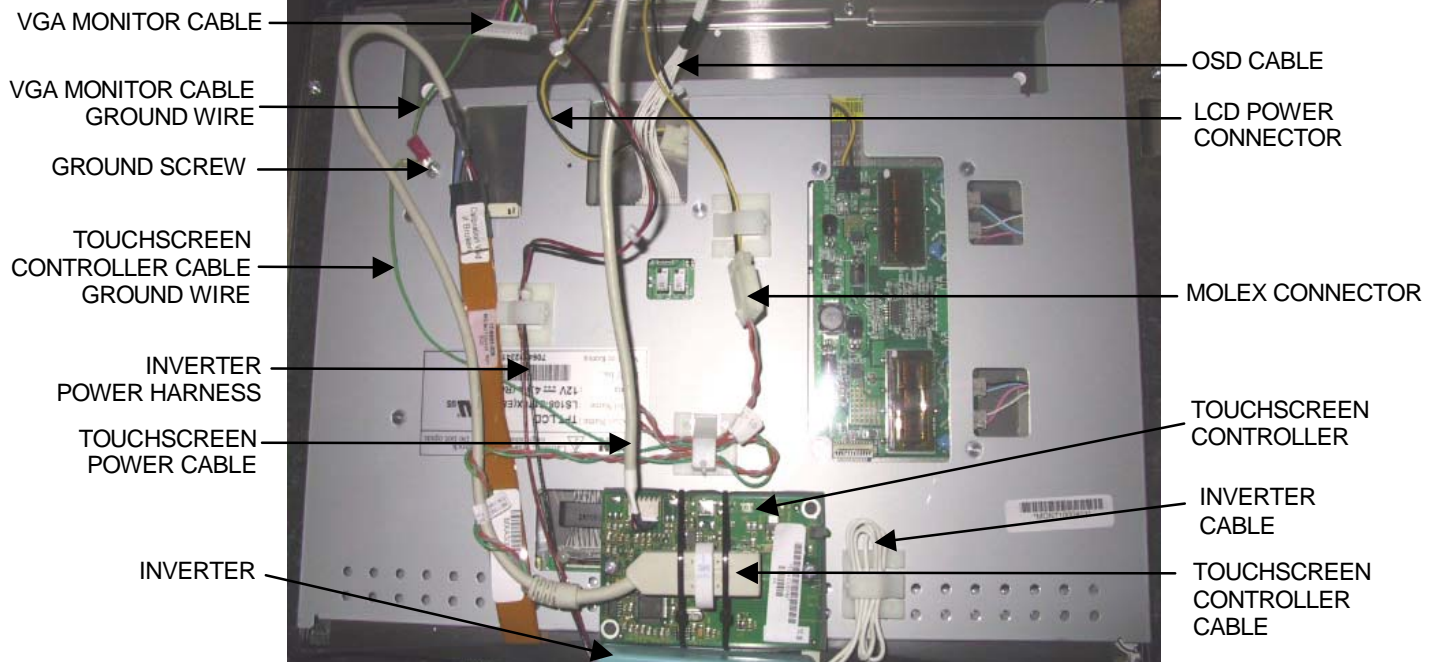
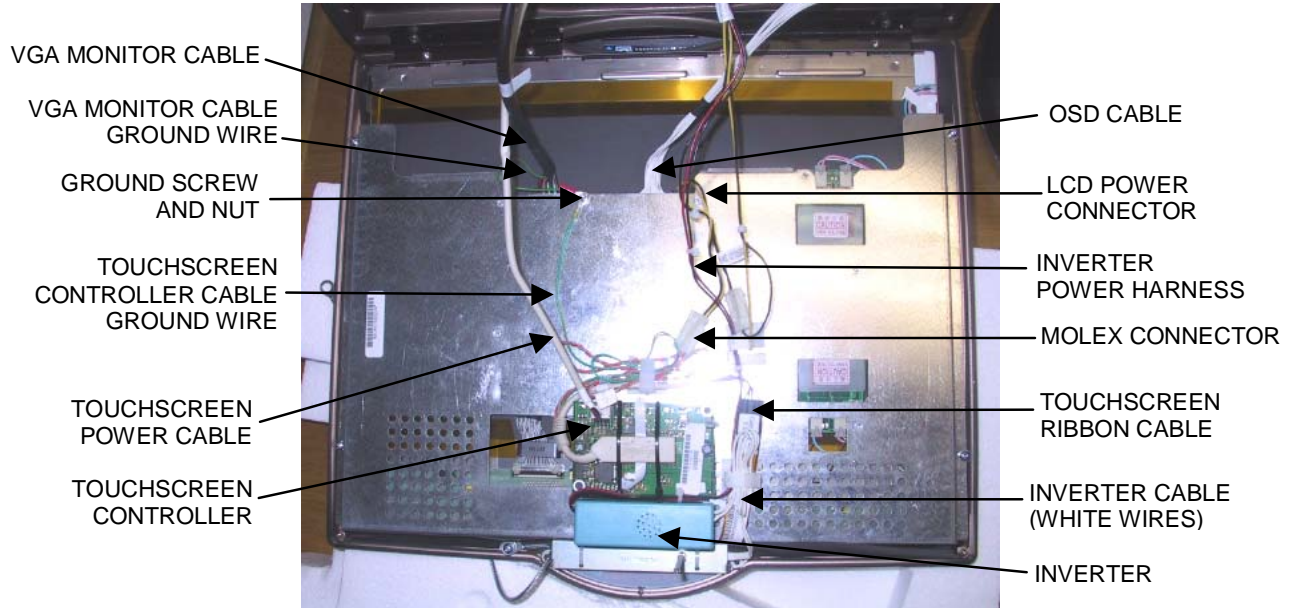

FIGURE 5 - REAR VIEW OF 17" MONITOR
FIGURE 6 - REAR VIEW OF 19" MONITOR
7. Disconnect the VGA connector from the monitor. Remove the screw securing the VGA and touchscreen controller ground wires to the monitor (17"), or the nut securing the VGA and touchscreen controller ground wires to the ground screw on the back of the monitor (19" & Widescreen). *Note: On the Aurora Widescreen this nut may secure only the VGA ground wire.* Disconnect the 14-pin OSD cable (white wires) and the LCD power connector (yellow & black wires) from the monitor. Refer to Figure 5 for 17" games, and Figure 6 for 19" and Widescreen games.
8. Disconnect the touchscreen power cable from the touchscreen controller, then disconnect the Molex connector, identified by the orange and gray wires (this does not exist on Aurora Widescreen systems). Refer to Figure 5 for 17" games, Figure 6 for 19" and Widescreen games.
9. Release harnesses from clamps; this may include the inverter cable, the inverter power harness, the Molex harness, the touchscreen controller cable, the touchscreen controller cable ground wire, the harness connecting the Molex connector to the power supply, and/or the touchscreen ribbon cable. Refer to Figure 5 for 17" games, and Figure 6 for 19" and Widescreen games.
10. For 19" and Widescreen games: Remove the inverter from the Velcro securing it to the LCD bracket (19") or touchscreen controller mounting plate (Widescreen) and carefully place it out of the way of the monitor assembly. See Figure 6.
If you are replacing the touchscreen: Remove the touchscreen controller cable from the touchscreen controller (see Figure 5).